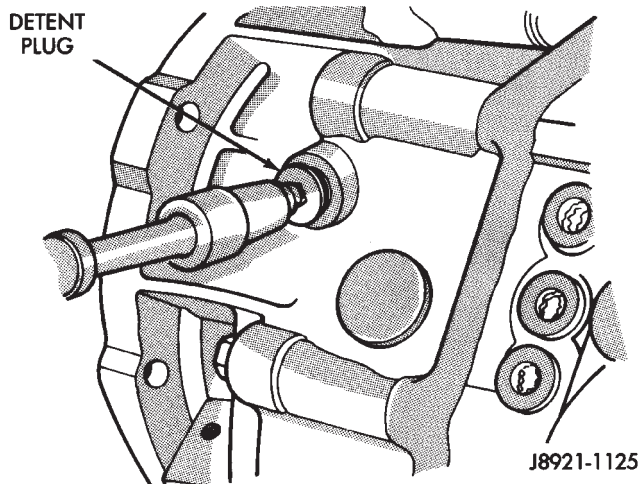

Fig. 20 Remove Detent Ball Plug
- (8) Remove reverse shift head detent ball plug (Fig. 20).